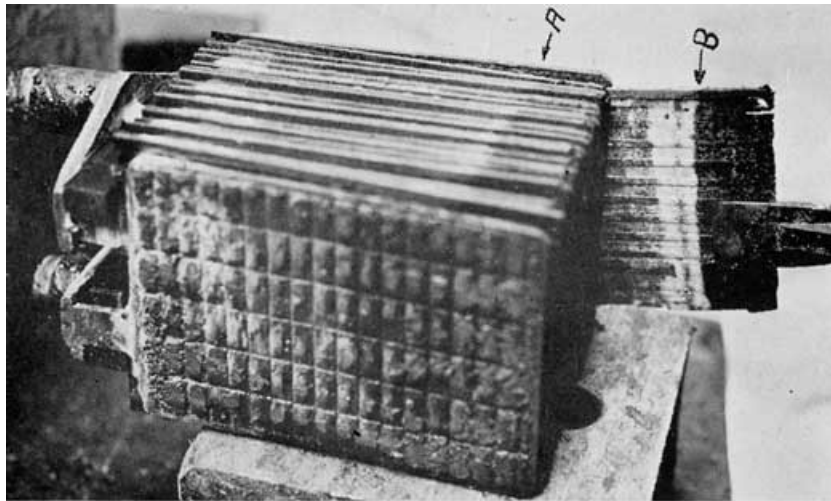

Fig. 201. Element on Block for Examination
Place an element on a block of wood as shown in Fig. 201. Carefully pry the plates apart so that you can look down between them and make a fair preliminary examination. Whenever possible, make your examination of the plates without separating the groups or removing the old separators. This should be done because:
4. A battery which has been dry and badly sulphated at some past period of its life will have tile dry portion.", covered with a white sulphate, tile acid line being clearly distinguishable by this white color, as shown at A and B in Fig. 201. If the plates are otherwise ill good shape and you wish to use them, give them the "water cure" described on page 349.
7. Dry, hard, and white, long discharged, and badly sulphated plates, Figs. 201 and 209, are practically ruined, though if the trouble is not of long standing, the plates may be revived somewhat by a long charge at a very low rate, using distilled water in place of the electrolyte, and then discharging at a current equal to about one-eighth to one-tenth of the ampere hour capacity of the battery at the discharge board. Charge and discharge a battery a number of times, and you may be able to put a little "pep" into it. In charging sulphated plates, use a low charging rate, and do not allow gassing before the end of the charge, or a temperature of the electrolyte above 110°F.
1. Whenever the pores are closed by any foreign matter whatsoever. Put in new separators whether you can figure out the cause of the trouble or not. The separator shown in Fig. 201 is sulphated clear through above the line B, and is worthless. The separator shown in Fig. 203 should not be used again.
4. When a battery has been used while the level of the Fig. 214. Separators Worn Thin and Cut Through on Edges by Buckled Plates. Holes Worn Through by Bulged Active Material. Center One Shows Cell Was Dry Two Thirds of the Way Down electrolyte has been below the tops of the plates, or the battery has been used in a discharged condition, and lead sulphate has deposited on the separators, Fig. 201.
2. There is another case where the groups must be separated and new separators inserted before they will take charge, and that is where the battery has suffered from lack of water and has sulphated clear through the separators, Fig. 201. The separators will be covered with white sulphate. Chemical action is very sluggish in such cases.